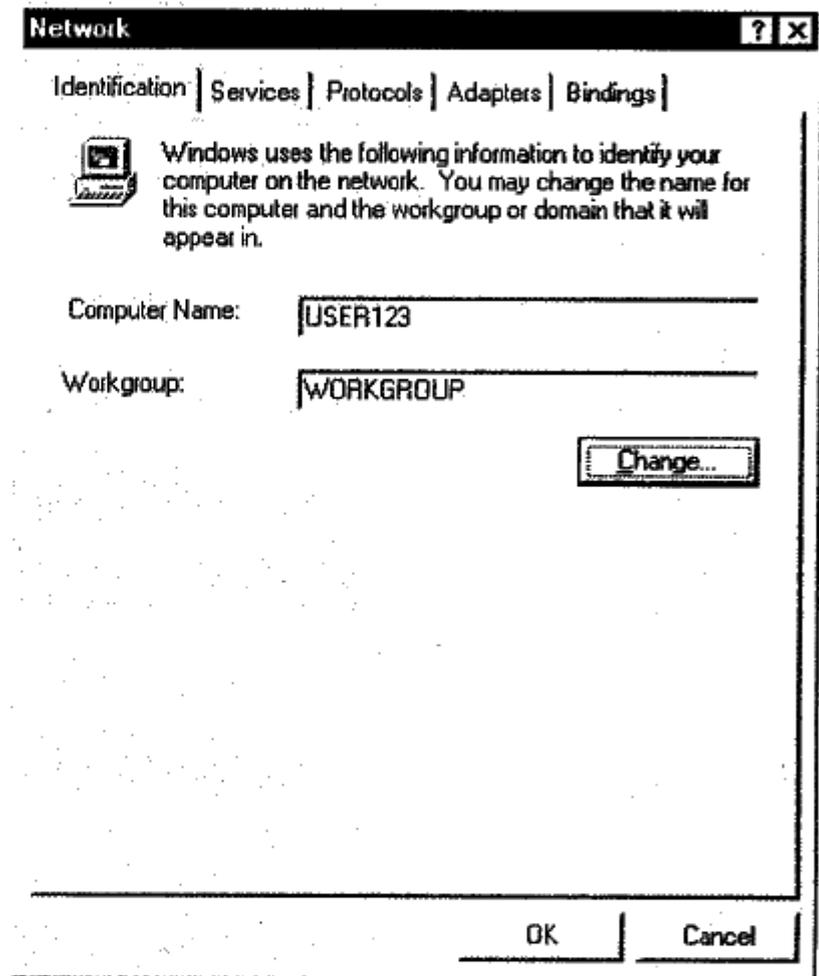

Figure 3-23
3. In the "Control Panel" window, double-click the "Network" icon to open the "Network" window as shown in Figure 3-23.